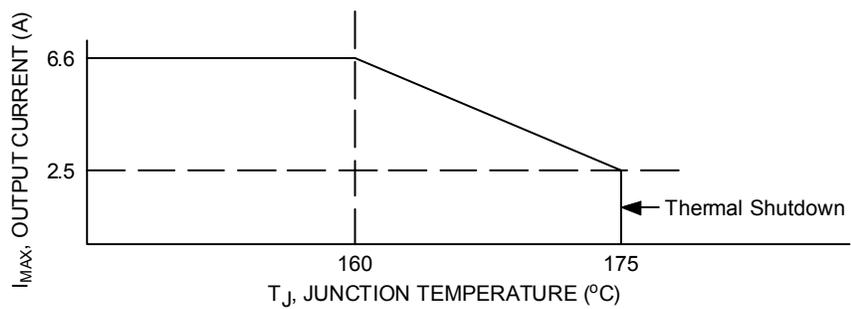
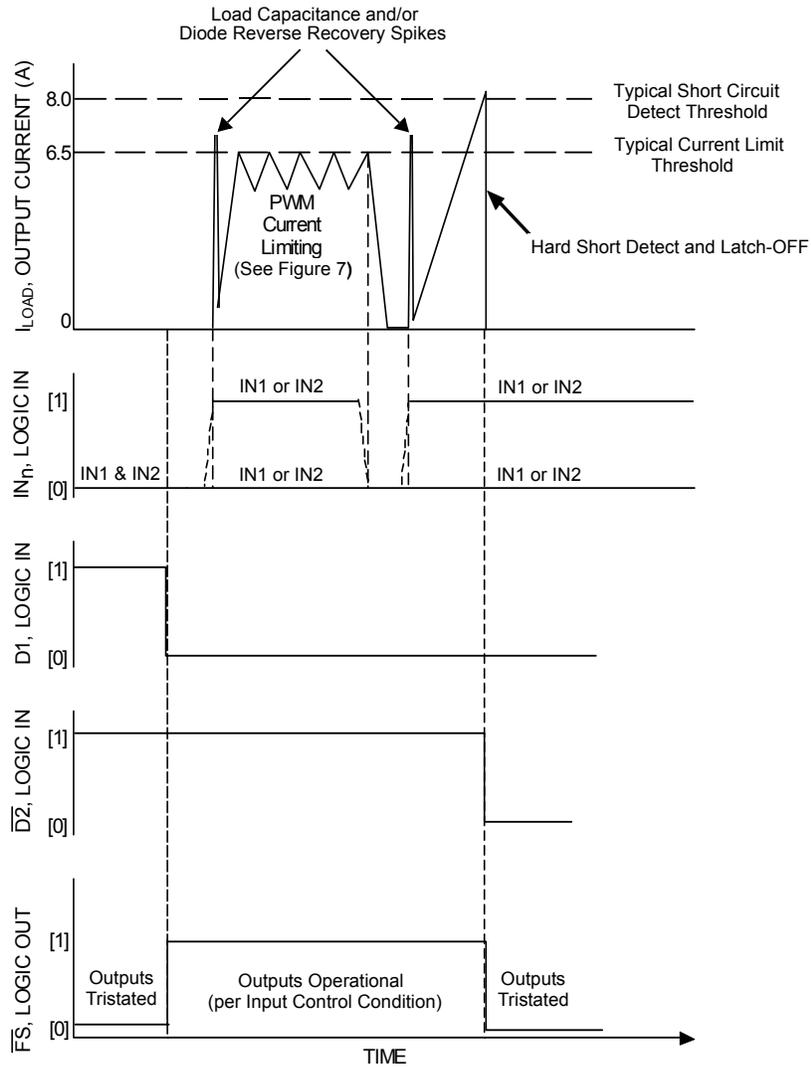
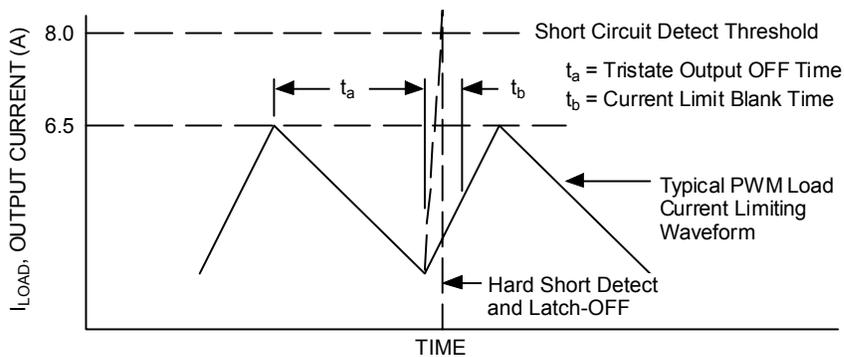

Figure 5. Output Current Limiting Versus Temperature (Typical)
Figure 6. Output Load Current Limiting Versus Time
Figure 7. PWM Current Limiting Detail
28. Increasing output currents will become limited at 6.5 A. Hard shorts will breach the 6.5 A limit, forcing the output into an immediate tristate latch-OFF. See Figure 6 and Figure 7. Output current limiting will cause junction temperatures to rise. A junction temperature above 160°C will cause the output current limit to progressively "fold-back" (or decrease) to 2.5 A typical at 175°C where thermal latch-OFF will occur. See Figure 5.
A disable timer (time t_b) incorporated to detect currents that are higher than current limit is activated at each output activation to facilitate detecting hard output short conditions. See Figure 7.
The maximum current flow under normal operating conditions is limited to I_{MAX} (5.2 to 7.8 A). When the maximum current value is reached, the output stages are tristated for a fixed time (t_a) of 20 μ s typical. Depending on the time constant associated with the load characteristics, the output current decreases during the tristate duration until the next output ON cycle occurs. See Figure 7 and Figure 10.
The PWM current limitation value is dependent upon the device junction temperature. When $-40^\circ\text{C} < T_J < 160^\circ\text{C}$, I_{MAX} is between 5.2 and 7.8 A. When T_J exceeds 160°C , the I_{MAX} current decreases linearly down to 2.5 A typical at 175°C typical (or where the device reaches T_{LIM}) and overtemperature shutdown occurs. See Figure 5. This feature allows the device to remain operational for a longer time but at a regressing output performance level at junction temperatures above 160°C .